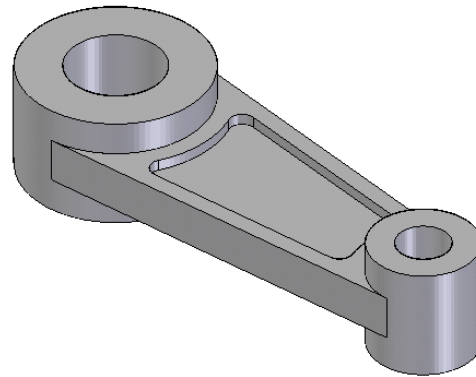

Figure 5-66 Final model for Tutorial 2
- e. Create a protrusion feature using the same sketch to complete the model, refer to Figure 5-66.
5. Right-click on **Sketch 1** in the **EdgeBar** and choose **Hide** from the shortcut menu; the display of the sketch is turned off. The final model for Tutorial 2 is shown in Figure 5-66.